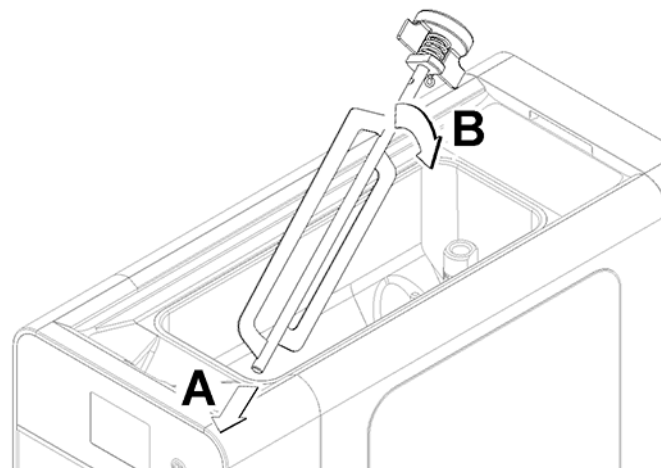

figure 30
- 8** Fit the mixer together taking care to insert the ends in the grooves in the upper basin.(see figure 30)